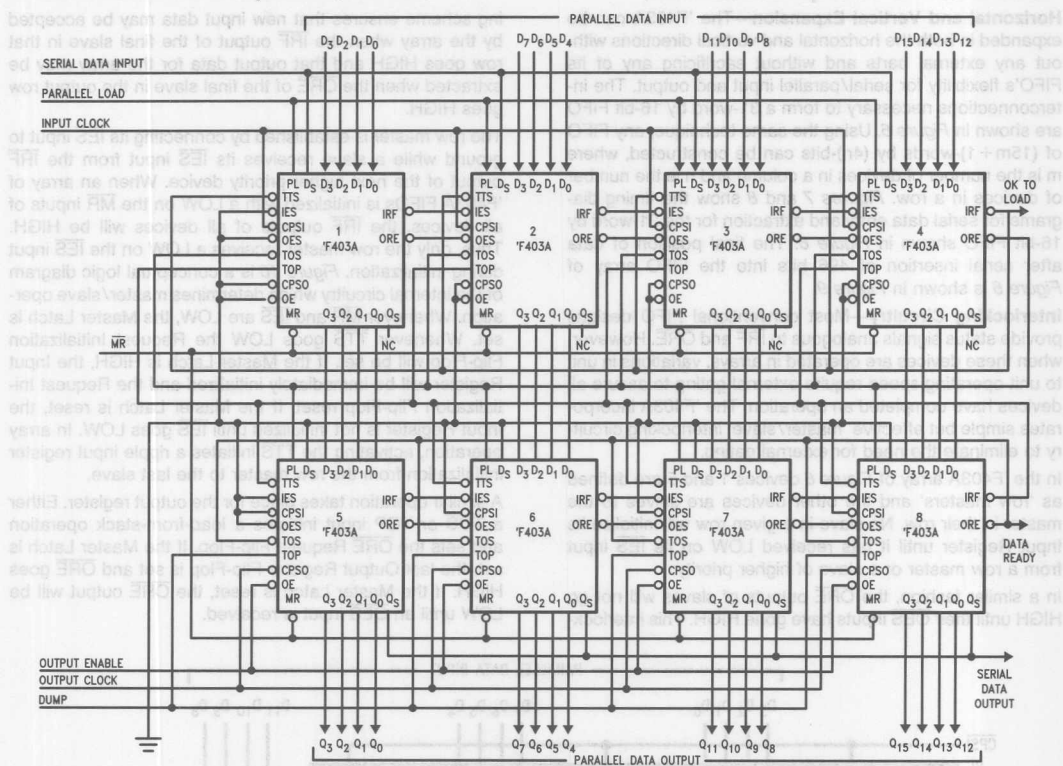
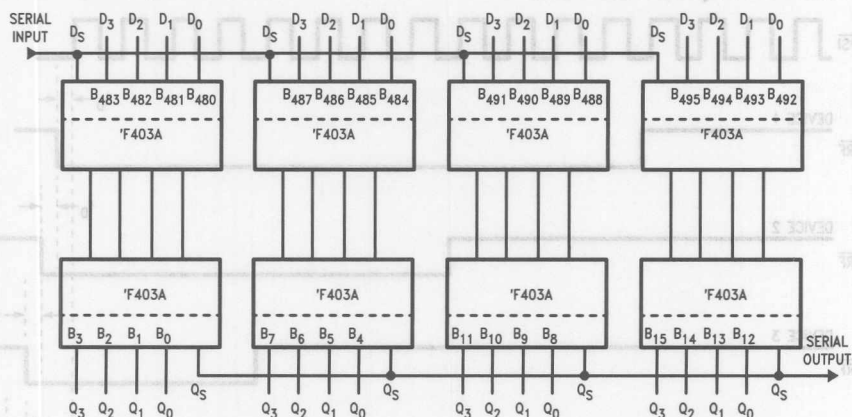

FIGURE 6. A 31 x 16 FIFO Array
FIGURE 9. Final Position of a 496-Bit Serial Input
**Horizontal and Vertical Expansion**—The 'F403A can be expanded in both the horizontal and vertical directions without any external parts and without sacrificing any of its FIFO's flexibility for serial/parallel input and output. The interconnections necessary to form a 31-word by 16-bit FIFO are shown in Figure 6. Using the same technique, any FIFO of  $(15m + 1)$ -words by  $(4n)$ -bits can be constructed, where  $m$  is the number of devices in a column and  $n$  is the number of devices in a row. Figures 7 and 8 show the timing diagrams for serial data entry and extraction for the 31-word by 16-bit FIFO shown in Figure 6. The final position of data after serial insertion of 496 bits into the FIFO array of Figure 6 is shown in Figure 9.
In the 'F403A array of Figure 6 devices 1 and 5 are defined as 'row masters' and the other devices are slaves to the master in their row. No slave in a given row will initialize its Input Register until it has received LOW on its IES input from a row master or a slave of higher priority.